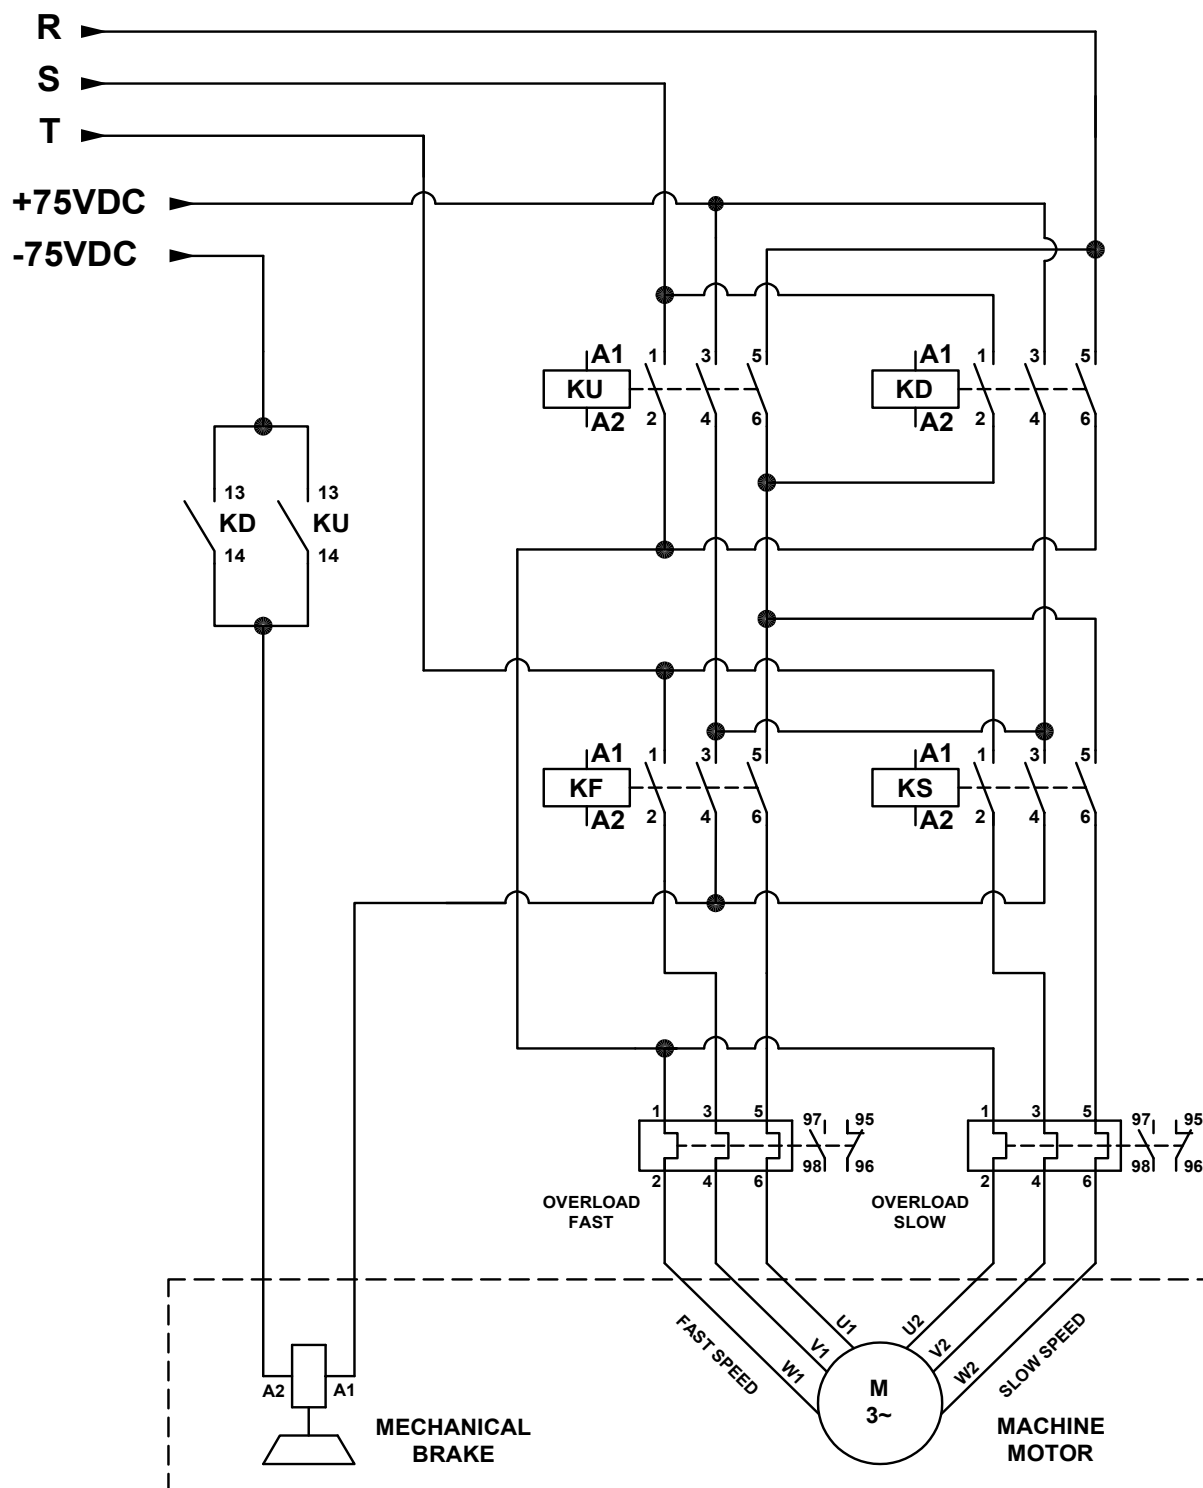

Figure 13.0 - Three-Phase and Brake Connections
The terminals of operating the Three-Phase Distribution on the Motion contactors are wired and connected as illustrated in Figure 13.0.
- Figure 13.0 illustrates the distribution of the three phases on the motion contactors (Fast, Slow, Up and Down), alongside the method of connection and operation of the system brakes.
- Figure 13.0 represents the condition that the system brake is operated with 75V DC.